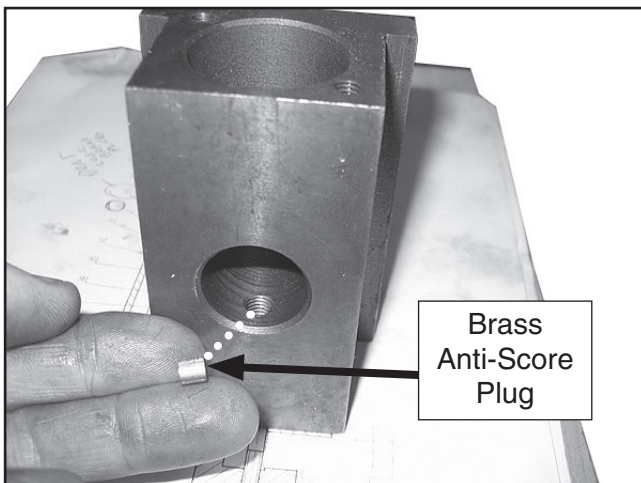

Figure 8. Slide block brass anti-score plug.
- Lift out the slide block without losing the brass anti-score plug (**Figure 8**).